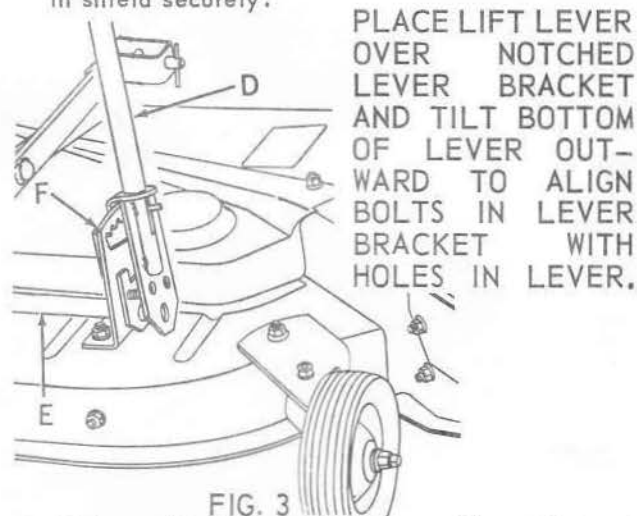

FIG. 3
6. Refer to Fig. 3. Install lift lever (D), to R.H. end of lift shaft (E). Be sure notched lever bracket (F), is between lever and lever clip, and that lever fits on end of lift shaft (E). Secure with flat washers 13/32 x 7/8 x 14 Ga., lockwashers, and hex nuts shipped in plastic bag. Tighten nuts securely.